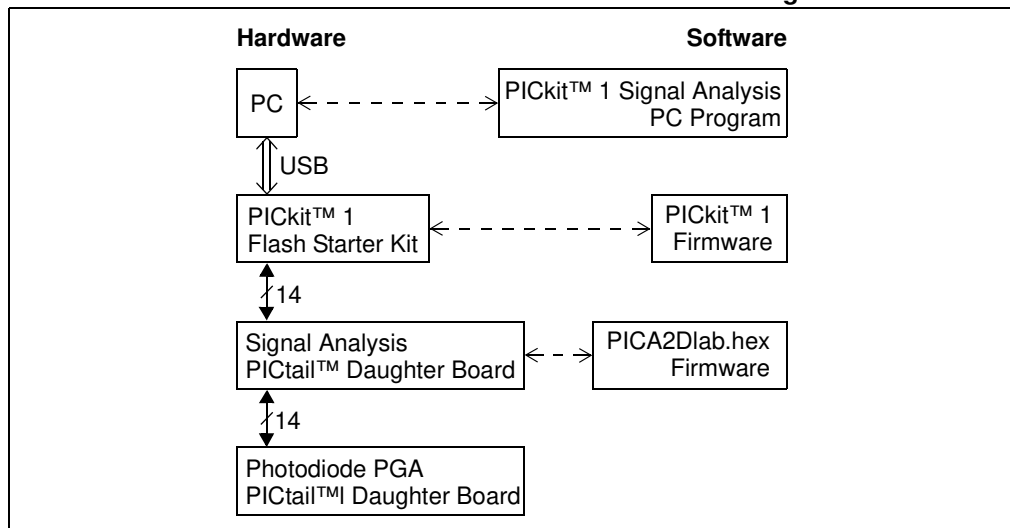

FIGURE 1-2: Measurement Set-up Block Diagram.
Figure 1-2 shows the block diagram of the hardware and software tools that the Photodiode PGA PICtail™ Daughter Board is designed to work with. More information on these tools can be found in the **"Recommended Reading"** section.
The Personal Computer (PC) shown in Figure 1-2 needs to run on Windows® 98 SE or later. It provides a convenient interface for the user, communicates with the other boards and provides power through the USB connection.